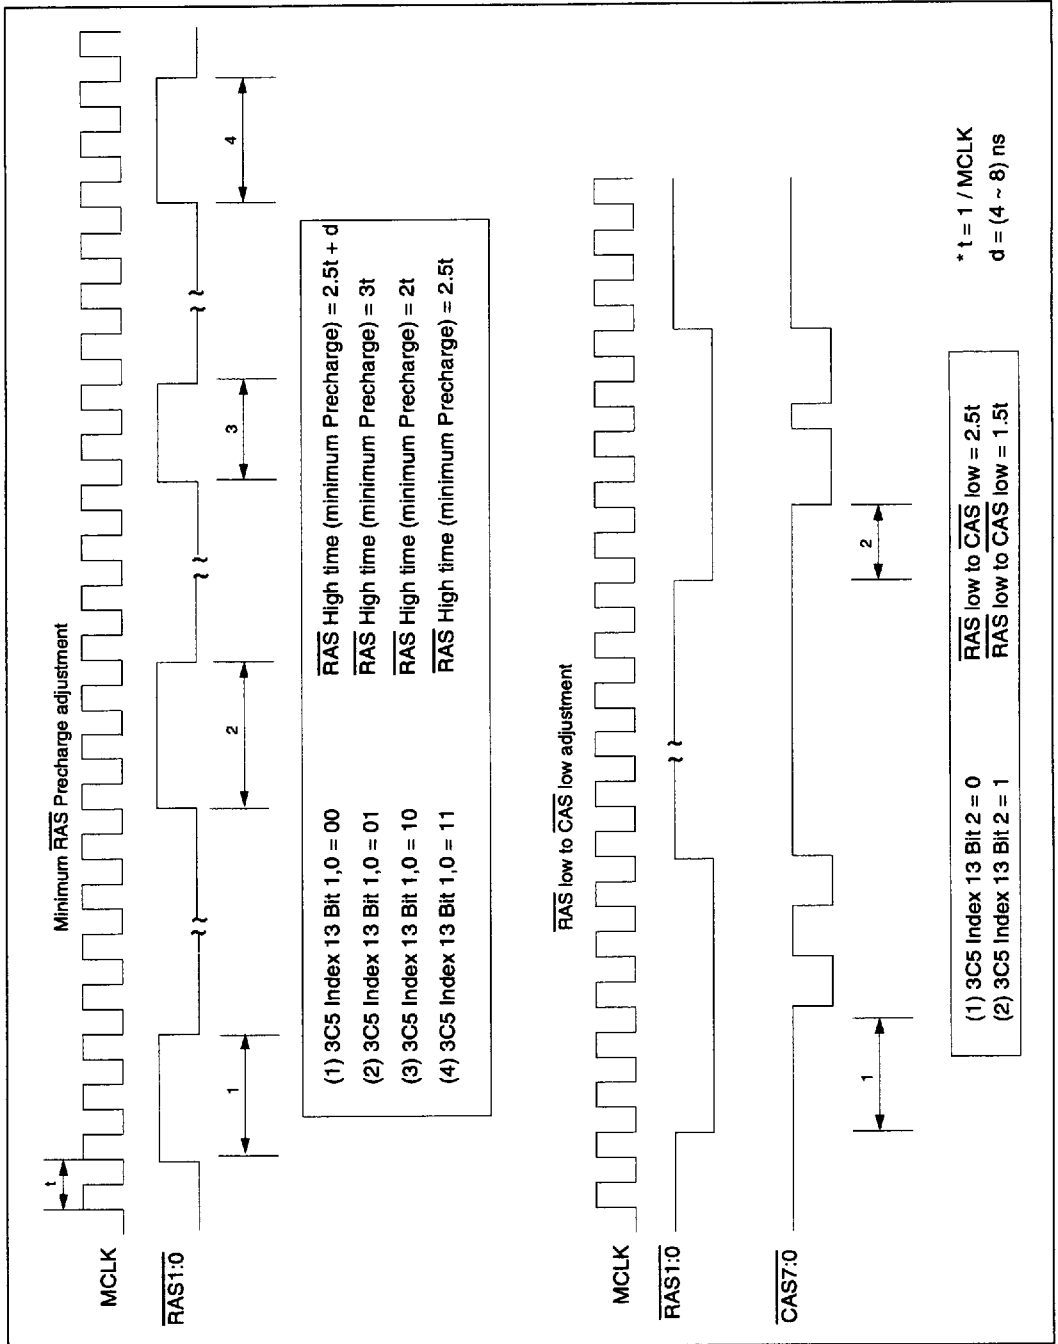

FIGURE 30-7. DRAM TIMING ADJUSTMENT
- (1) The timing in this table results from setting 3C5h, Index 13 to XXX00000b.
- (2) This timing is adjustable via 3C5h Index 13 (see Figure 30-7).
- (3) For $t = 1/\text{MCLK}$, the maximum MCLK frequency is: